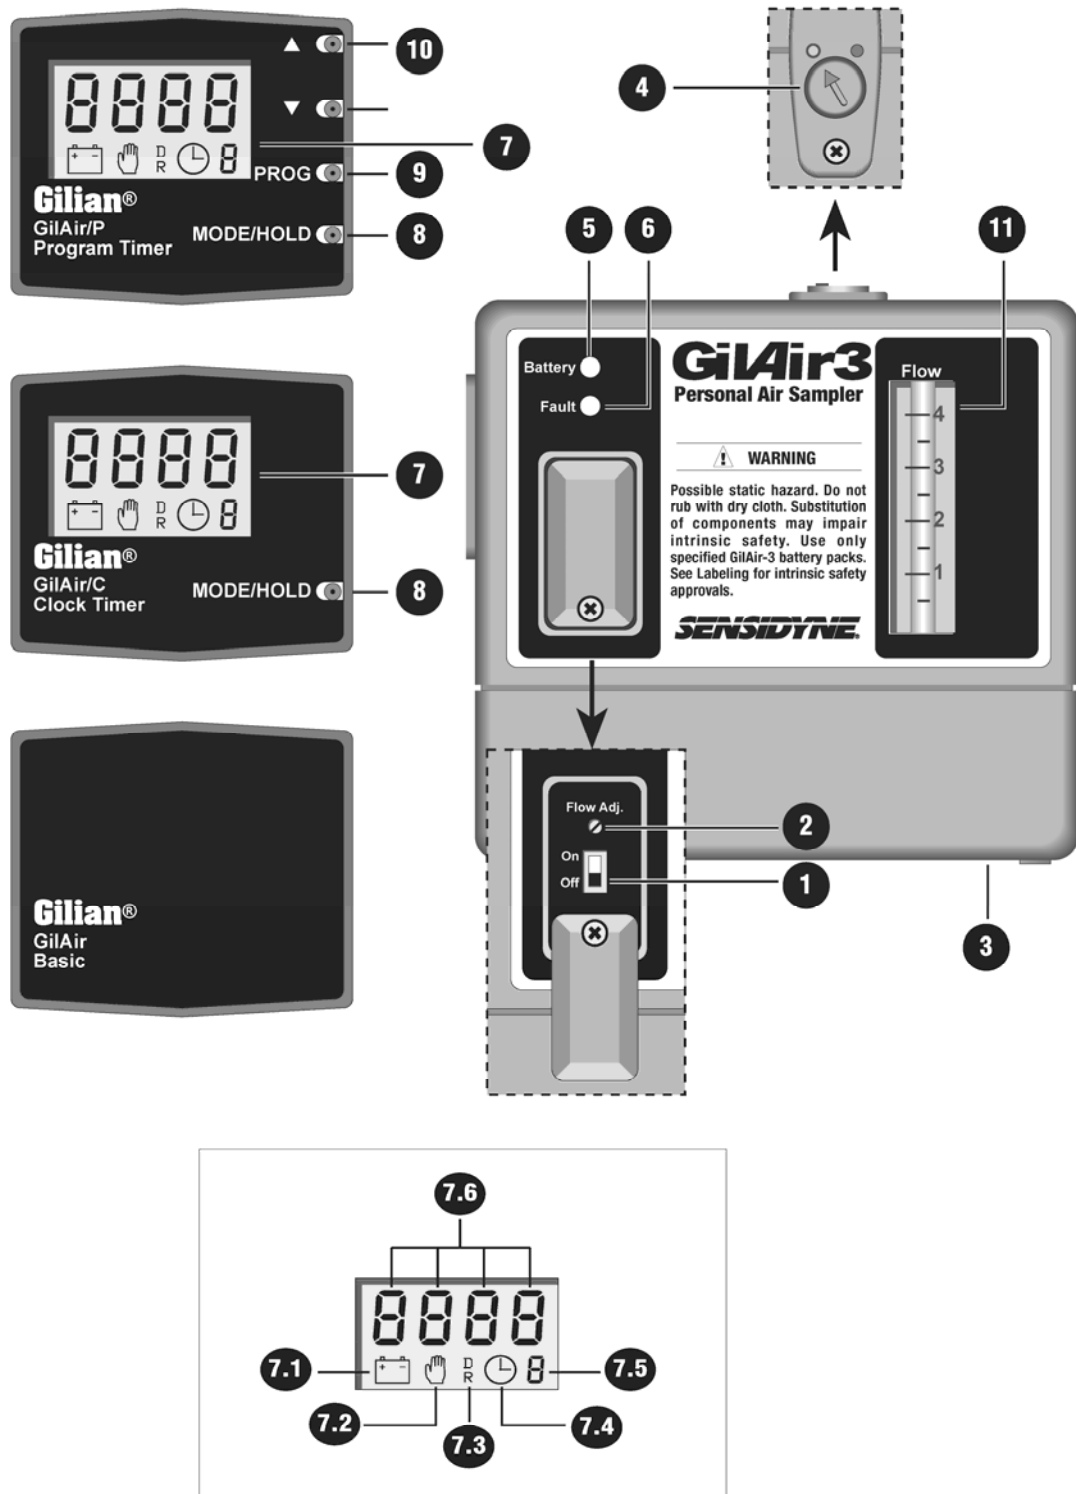

Figure 1.1
- See Figures 1.1 (GilAir-3) and 1.2 (GilAir-5)
- (1) On/Off switch
- (2) Flow Adjustment (requires slotted screwdriver)
- (3) Rechargeable Battery Pack
- (4) Internal/External Vent Control